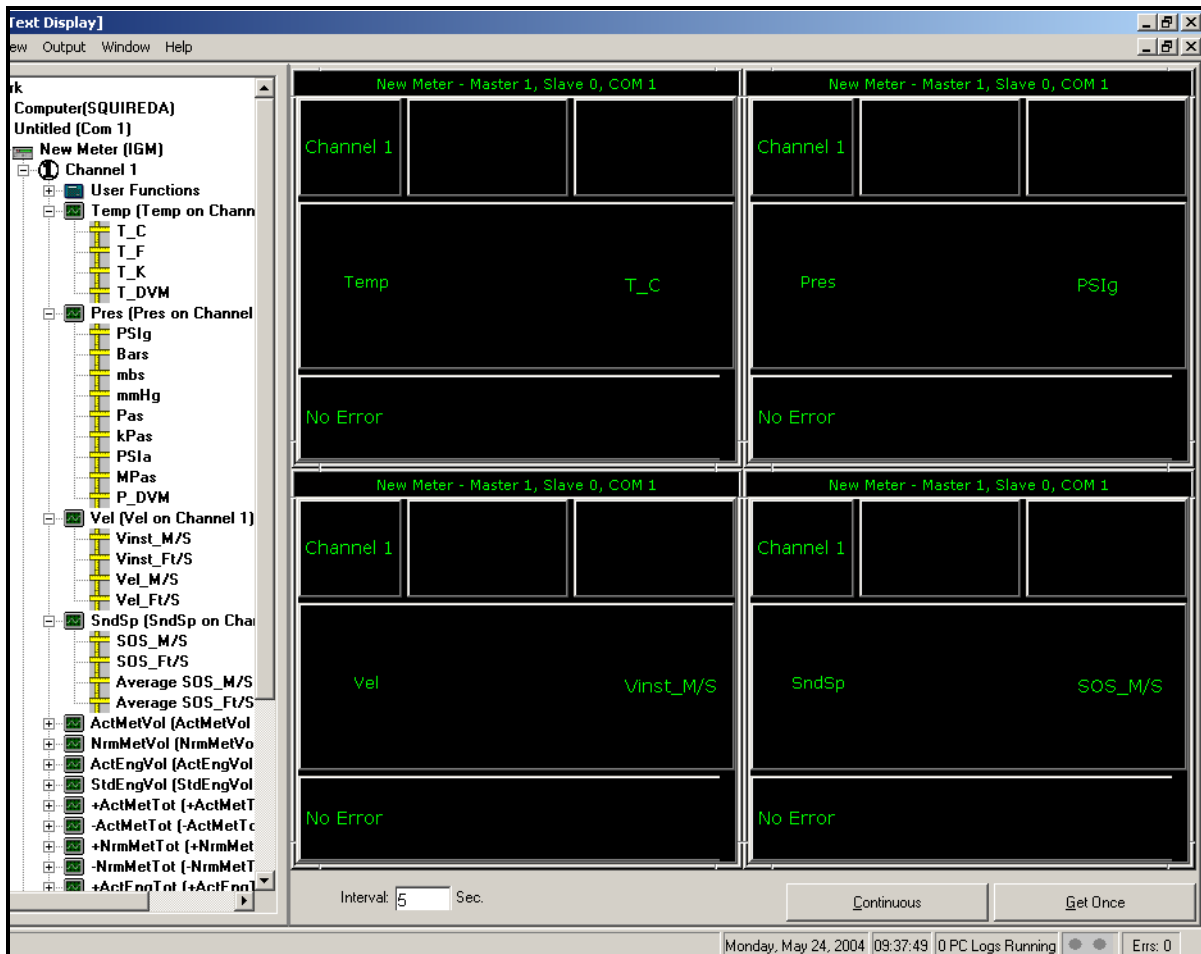
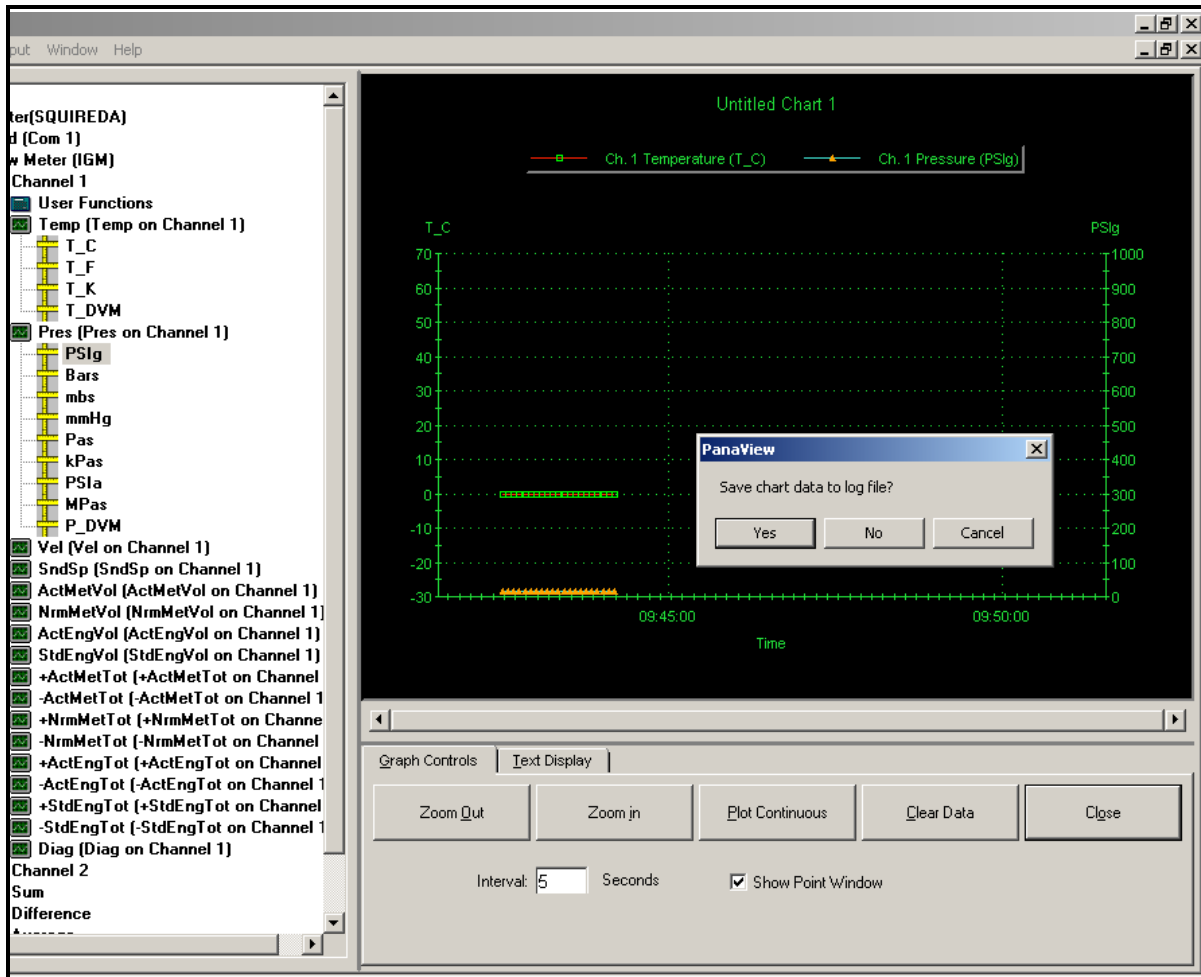

Figure 37: PanaView™ Measurements Display in Text Format
Figure 38: PanaView™ Measurements Display in Graph Format
6. Double click on the measurement(s) desired and, depending on the number of parameters chosen and the format that was selected in Step 3, a display similar to that shown in Figure 37 below or Figure 38 on page 36 will appear